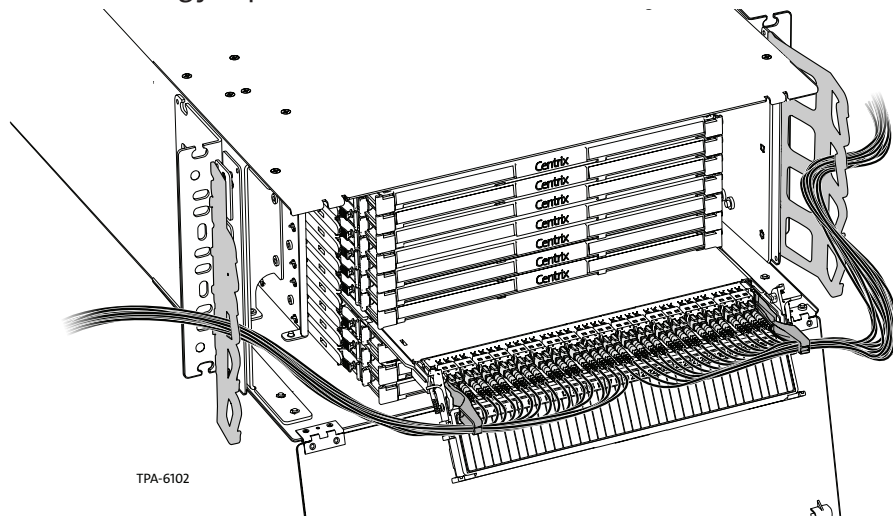

Figure 21
- Step 7:** Mate the connectors in the adapter (Figure 21).